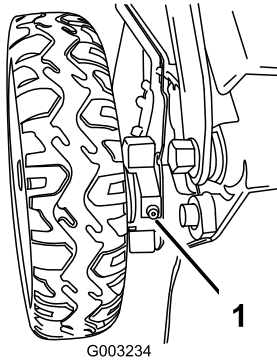

Figure 40
1. Wipe the grease fittings just inside the rear wheels with a clean rag (Figure 40).